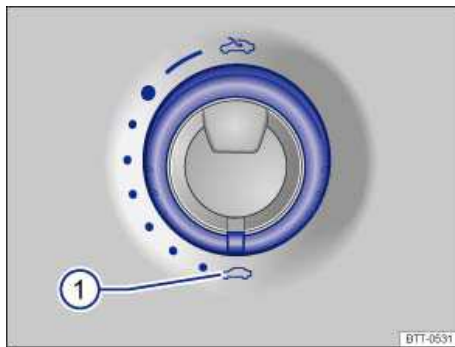

Fig. 51 In the headliner: Sunroof rotary switch.
- The switch must be rotated to the "Closed" position ⇒ fig. 51 (1).